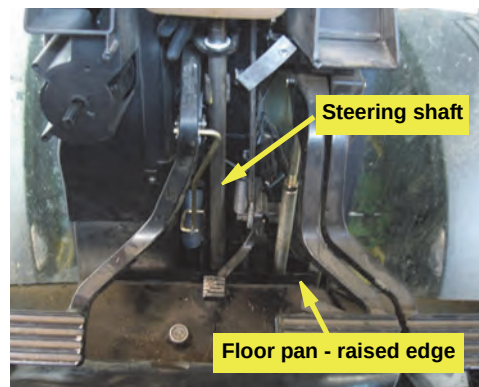

Figure 1b: Floor pan edge and steering shaft
- b. With the column covers removed, peel back the rubber flooring to expose the steering shaft and the raised front edge of the metal floor pan (Figure 1b).